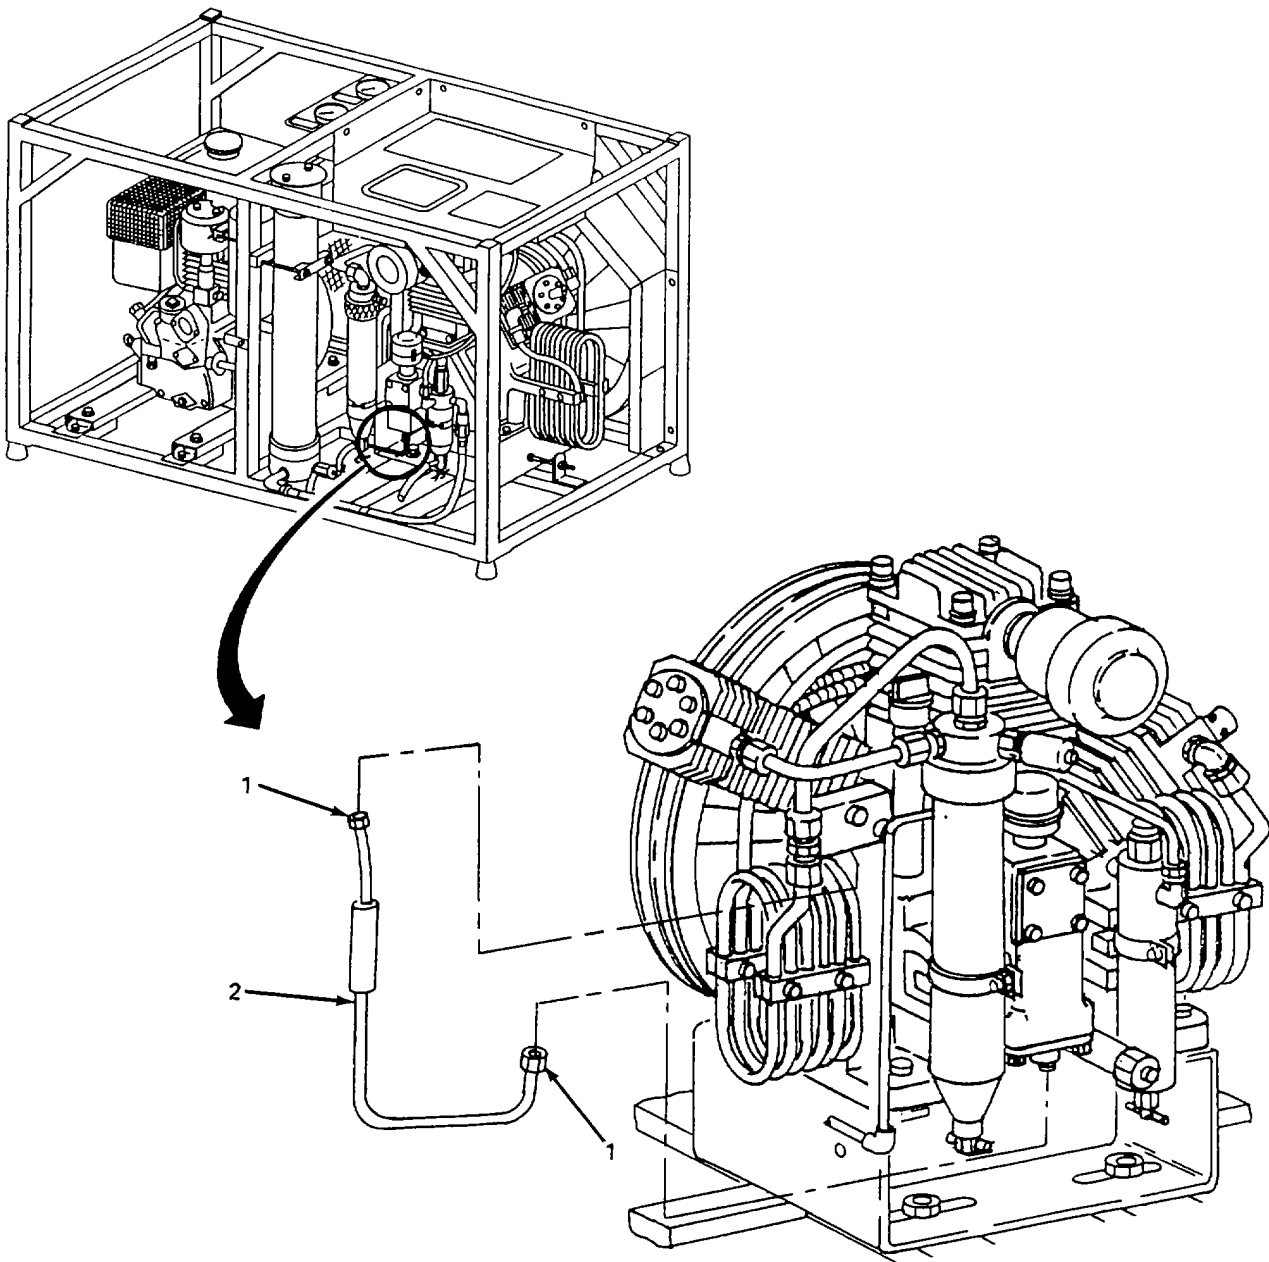

Figure 5-20. Oil and Filter Line, Replace.
d. Replace Oil and Filter Line. (figure 5-20)
- (1) Loosen two connector nuts (1) and remove line (2), and drain excess oil into suitable container.
- (2) Install oil and filter line (2) and tighten two connector nuts (1).